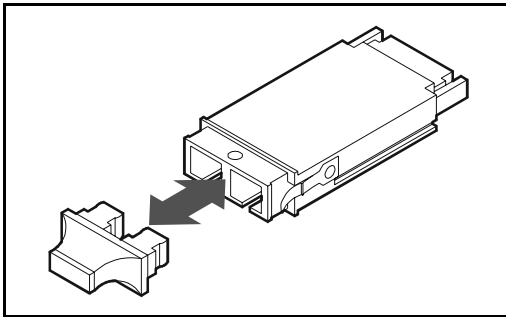

Figure 31 GBIC Cover
CAUTION: To prevent data transmission problems, always leave the GBIC cover installed until you are ready to connect the fiber optic cable to the GBIC (see Figure 31).
1. Remove the GBIC cover (Figure 31).